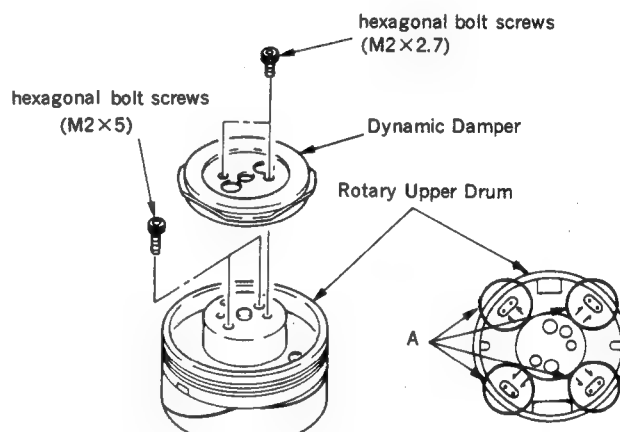
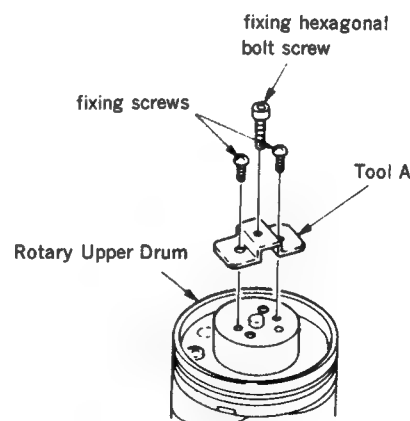

Fig. 1
Fig. 2
- (1) Open the MB-19 Board referring to Section 2-5-5.
- (2) Remove the Fly Wheel referring to Section 4-1.
- (3) Remove the two screws (M2 X 2.7) and remove the Dynamic Damper.
- (4) Unsolder the ten terminals at A positions. Check that the terminals which are projected out from the PC Board move freely with a pair of tweezers, etc. (fig. 1)
- (5) Remove the two screws (M2 X 5).
- (6) Install the tool A to the two screw holes of installing the Dynamic Damper with the two accessory supplied screws. Thread the accessory supplied hexagon screw into the center hole of the tool A, and remove the Rotary Upper Drum. (fig. 2)